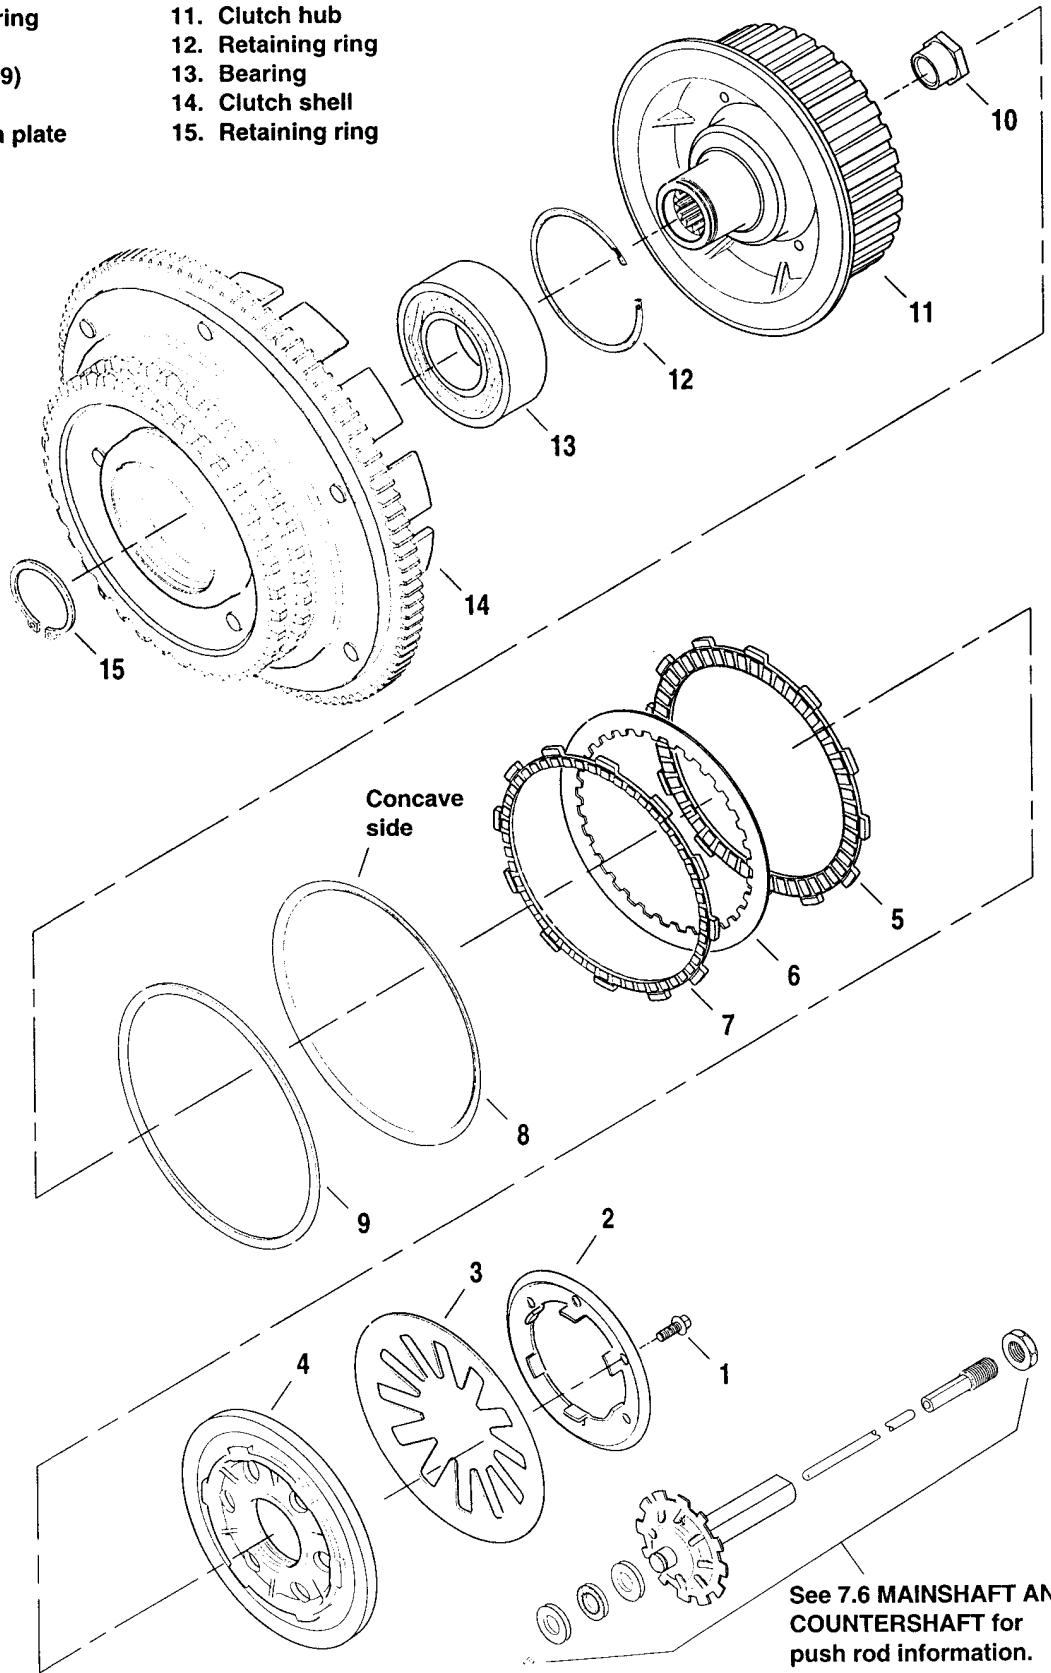

Figure 6-18. Clutch Shell Assembly
2. See Figure 6-18. Remove six bolts (1) to release diaphragm spring retainer (2) from clutch hub. Loosen each bolt gradually and in a star sequence around the hub.
3. Remove diaphragm spring retainer, diaphragm spring (3) and pressure plate (4) from clutch hub.
4. Remove friction plates (5, 7), steel plates (6), damper spring (8) and damper spring seat (9) from clutch hub (11). Continue with Cleaning And Inspection.
2. See Figure 6-18. Install damper spring seat (9) on clutch hub (11). It must sit inboard of narrow friction plate (7).
3. Install damper spring (8) on clutch hub with the concave side out (facing away from damper spring seat).
4. Install a steel plate (6) with round edge outward and then a friction plate (5) on the clutch hub. Install seven remaining sets in the same manner, alternating between steel plates and friction plates.
5. Install pressure plate (4) on clutch hub aligning holes in plate with threaded bosses on hub.
6. Seat diaphragm spring (3) in recess of pressure plate with the concave side inward.